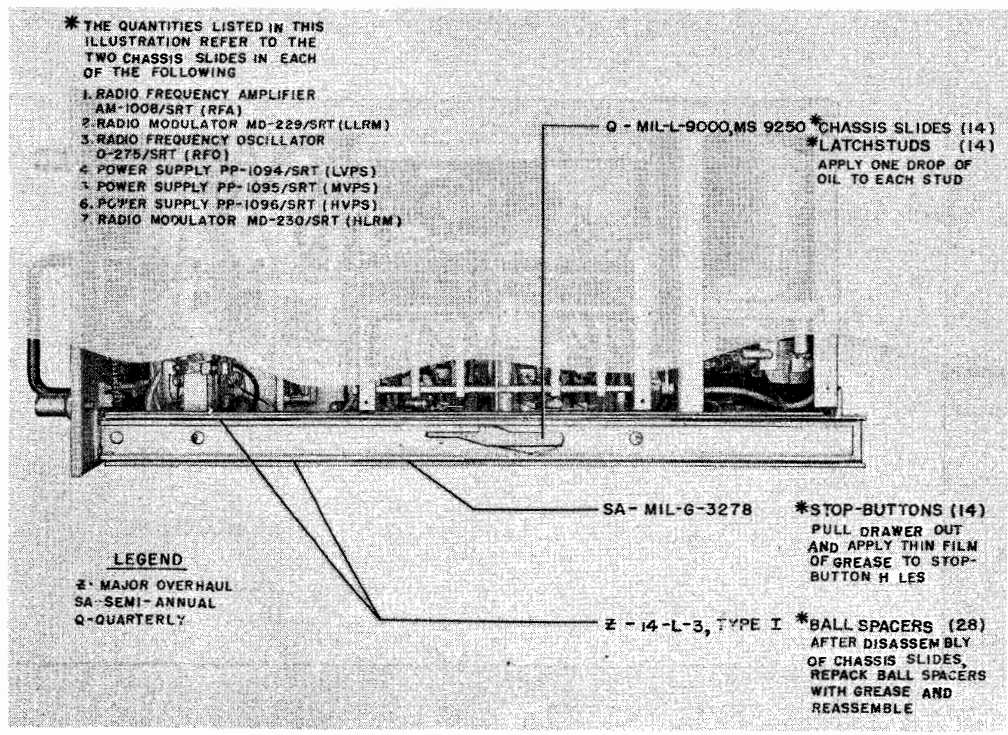
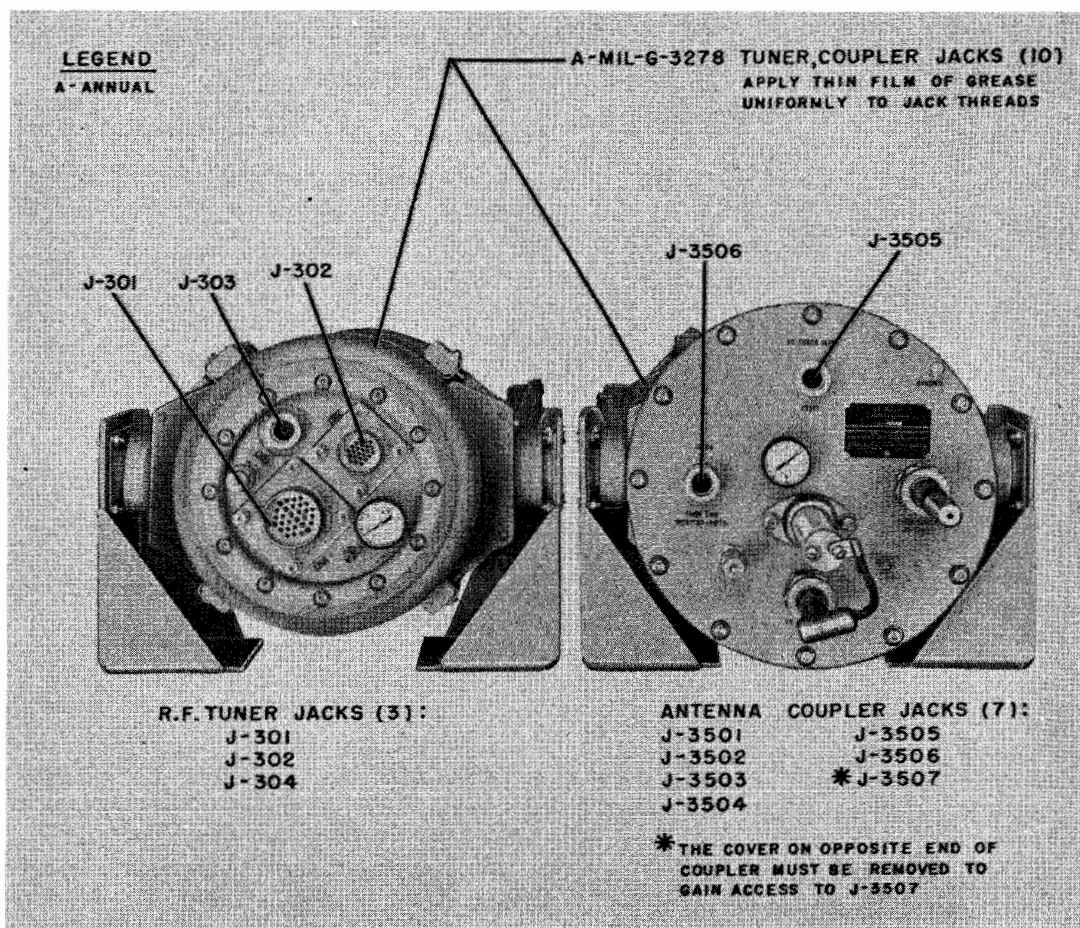

Figure 6-27. Chassis Slide, Lubrication
Figure 6-28. Radio Frequency Tuner TN-229/SRT and Antenna Coupler CU-372/SRT Jacks and Plugs, Lubrication
- (i) Figure 6-27
(2) SEMIANNUAL LUBRICATION.—The following illustrations cover lubrication instructions for the semiannual interval:
- (m) Figure 6-27
(3) ANNUAL LUBRICATION.—The following illustrations contain lubrication procedures to be followed for the annual lubrication interval:
- (a) Figure 6-28
- (c) Figure 6-27